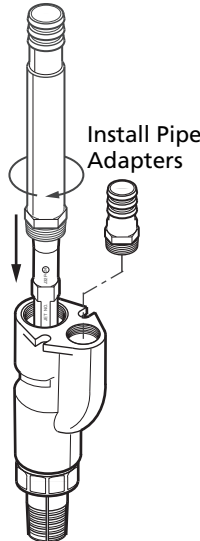

Figure 6
6. Wrap 1½ turns of Teflon tape onto threaded end of pipe adapter. Thread long adapter (furnished) into ejector discharge port (slide it over venturi to install). Tape and install short adapter (not furnished – purchase locally) in drive port (see Figure 6). Adapters must be tight – if assembly leaks, pump will not lift water from well.